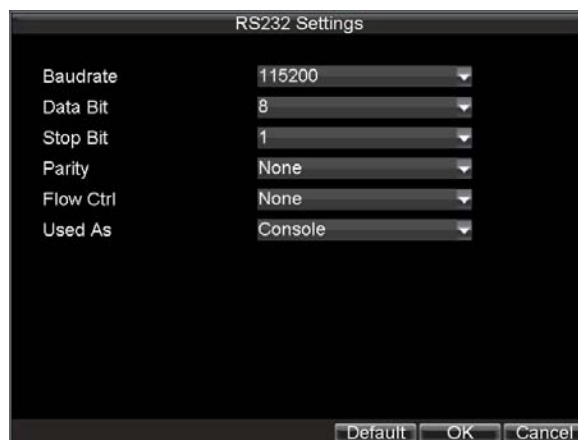

Figure 3. RS-232 Settings Menu
1. Click Menu > Setting > RS232 to enter the RS-232 Settings menu, shown in Figure3.